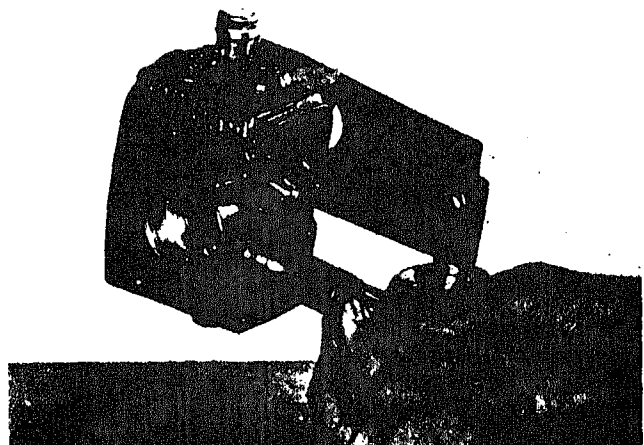

Fig. 507-7 Installing spring pack snap ring
2. Place the maximum-speed spring Table 507-4 over the top of plunger guide and place shim against spring, install spring retainer and snap ring securing assembly into governor sleeve. Fig. 507-7.